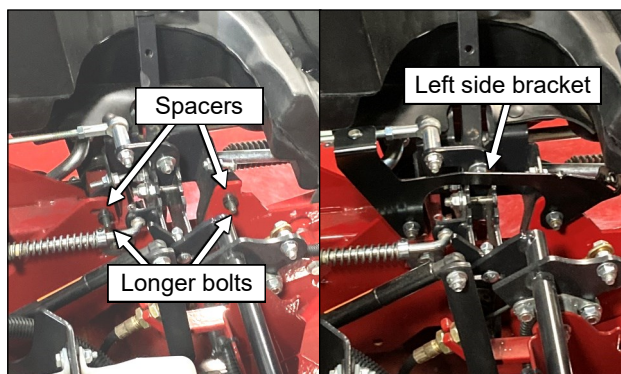

Fig. 10.8 (Left side inner panel bracket)
- 10.8 See Fig. 10.8. Remove both bolts from the left side control arm mechanism. Place 5/16 x 1-1/4" lg. bolts through the frame flange and control arm mechanism from the outside of the flange. Place a spacer on each bolt, then the left inner panel bracket on the inside of the frame flange and secure with nuts. Tighten to 11 ft-lbs. (15 N-m)